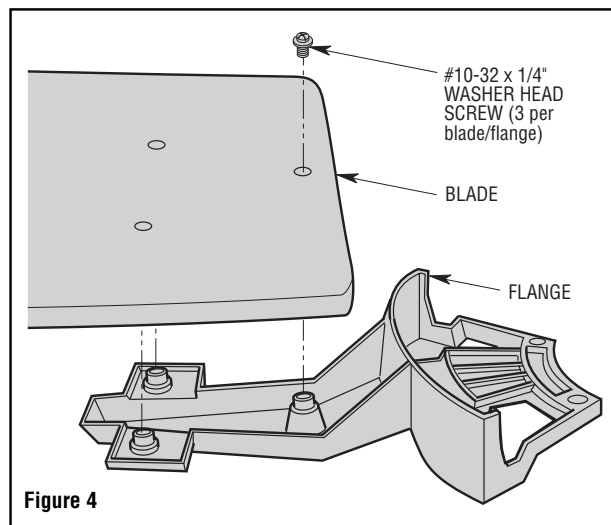

Figure 4
9. Attach the blade flange to the fan blade using the #10-32 x 1/4" washer head screw. Use three screws with lockwashers per blade assembly (Figure 4).